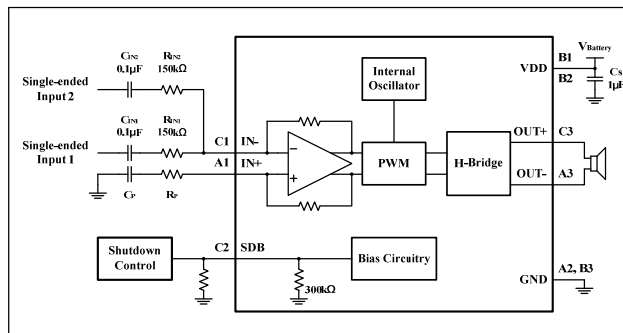

Figure 14 Summing Two Single-Ended Inputs
The gain and corner frequencies (f_{c1} and f_{c2}) for each input source can be set independently (see Equations (11) through (14) and Figure 14). Resistor, R_p , and capacitor, C_p , are needed on the $IN-$ terminal to match the impedance on the $IN+$ terminal. The single-ended inputs must be driven by low impedance sources even if one of the inputs is not outputting an ac signal.